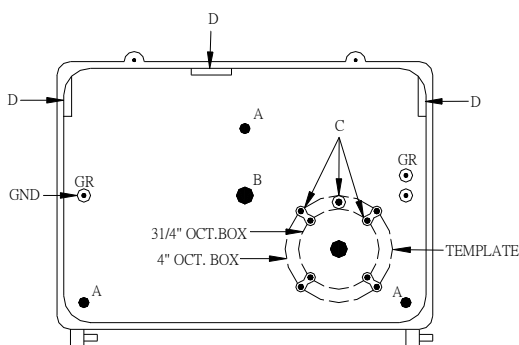

FIG.2
2. Prepare the back plate for mounting by drilling or knocking out the appropriate holes. ( Fig. 2 ).